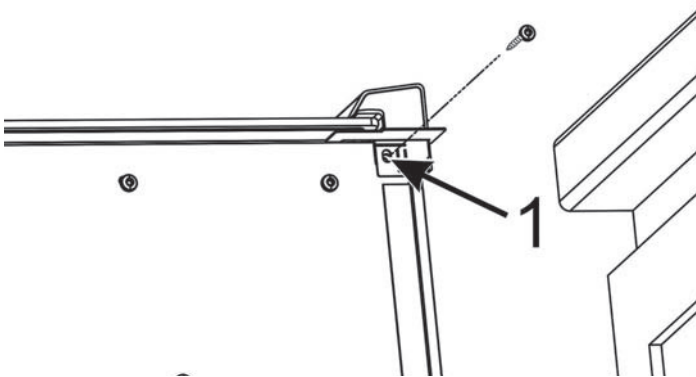

Figure 4: Screw placement
6. Insert screw (saved or from the kit) into hole 1 and lightly tighten (see Figure 4: Screw placement).